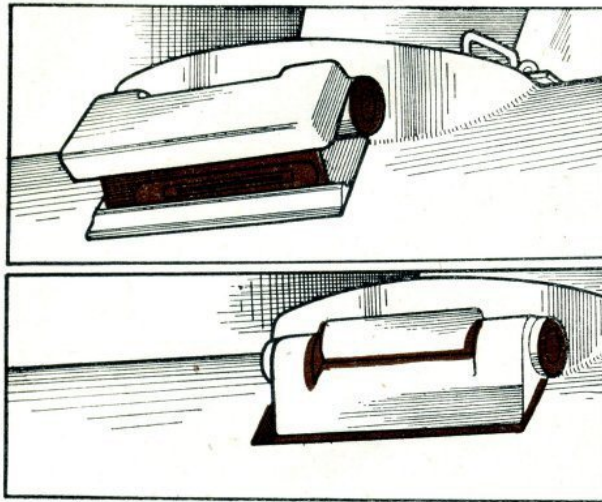

Fig. 38. Sealing vizor.
6. Using A.C., seal the driver's and co-driver's vizors, if fitted. Open each vizor and lay a bead of A.C. around vision slit. (see Fig. 38). Be careful not to obscure the slit. Close vizor and seal around the outside of the vizor cover and over the hinge (again see Fig. 38).